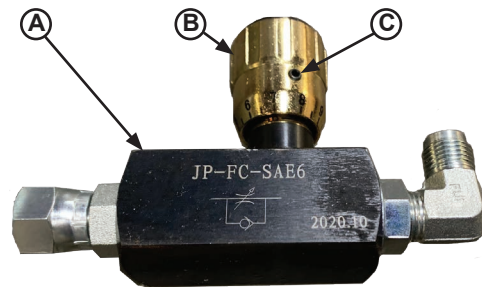
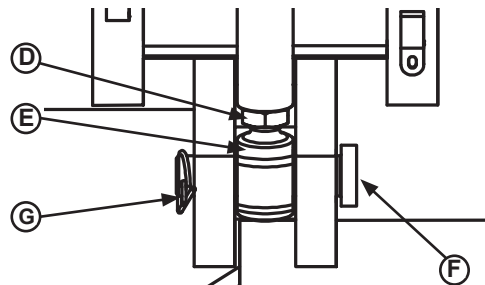

Figure 19
Figure 20
5. Fully open the down speed flow control valve (A) by turning knob (B) counter-clockwise (see Figure 19). Loosen set screw (C) to turn knob. Flow control valve location varies depending on options; see Component Identification on pages 9-11 for location or contact Technical Services.
6. With the cylinder pin(s) (F) removed from the embed/carriage, restore power to the dock leveler. Then cycle the hoist cylinder(s) up and down at least six times using the leveler's own hydraulic power. Ensure the cylinder rod(s) smoothly extend/retract.
7. Reconnect the hoist cylinder yoke(s) to the base of the embed or carriage by completing the following steps (see Figure 20):
c. With the platform leaning 4 degrees towards inside, loosen the jam nut (D) and adjust the yoke (E) so that the cylinder pin (F) easily slides through both the trunnion and yoke.
d. Install and lock rue clip (G) into place.